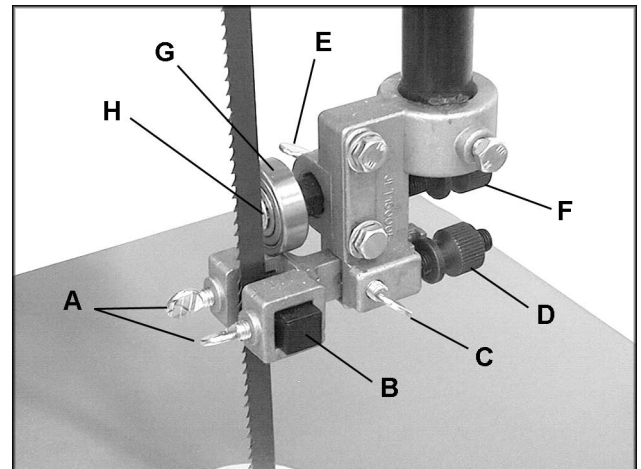

Fig. 19
3. Loosen thumb screws (A, Fig. 19) and move guide blocks (B, Fig. 19) as close to the blade as possible without pinching it.
4. Tighten thumb screws (A, Fig. 19).
5. Loosen thumb screw (C, Fig. 19) and turn knurled knob (D, Fig. 19) to move the guide block bracket in or out until the front edge of the guide blocks are just behind the "gullets" of the saw teeth.
6. Tighten thumb screw (C, Fig. 19).
7. Loosen thumb screw (E, Fig. 19) and turn knurled knob (F, Fig. 19) to move the support bearing (G, Fig. 19) in or out until the bearing is 1/64" behind the blade.
8. Tighten thumb screw (E, Fig. 19).
9. The blade support bearing should be adjusted so that the back edge of the blade overlaps the front face of the ball bearing approximately 1/8". To change position of the bearing, remove screw (H, Fig. 19), and bearing (G, Fig. 19), and back off knurled knob (F, Fig. 19) completely to remove the bearing shaft. Notice the bearing holder on the shaft is eccentric. Re-install the bearing holder on the shaft is eccentric. Re-install the bearing shaft, the bearing, and the screw. Examine the overlap between the bearing face and the blade. Change the position of the bearing shaft until the overlap is approximately 1/8".